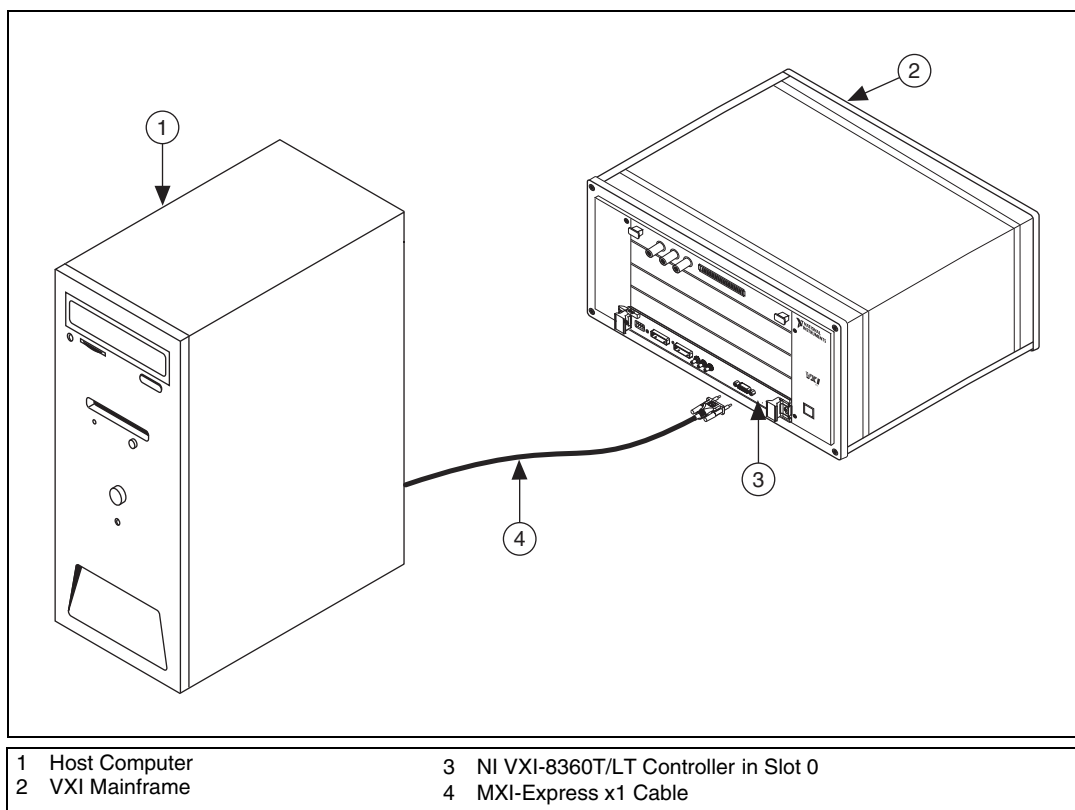

Figure 1-3. Host System with NI VXI-8360T/LT Controller
Figure 1-3 is an example of a basic VXI system being controlled by a PCI-Express based host computer via a MXI-Express x1 link.
3. Insert the NI VXI-8360T/LT controller into the chassis in Slot 0, as shown in Figure 1-3.
Connect the NI VXI-8360T/LT controller to the MXI-Express x1 host adapter in the host computer, using the MXI-Express x1 cable as shown in Figure 1-3, *Host System with NI VXI-8360T/LT Controller*.